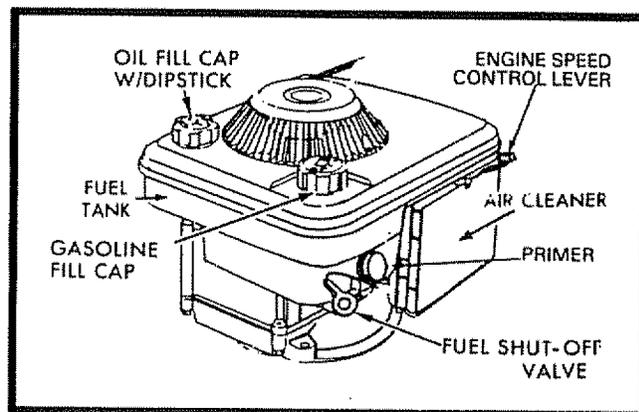

FIG. 12
- Remove Engine Oil Cap with dipstick (See Fig. 12) and fill to the FULL line on the dipstick.
- After the first two (2) hours of mowing, change the oil, and every 25 hours thereafter. You may need to change the oil more often under dusty, dirty conditions.
- Fill gasoline tank with fresh, clean unleaded gasoline. **DO NOT USE PREMIUM GASOLINE. BE CAREFUL NOT TO OVERFILL TANK (SEE FIG. 12).**
- Make sure Fuel Shut-Off Valve is open (See Fig. 12).
- To start a cold engine, push Primer five (5) times before trying to start. Use a firm push being sure to cover the hole in the Primer Bulb with your finger. This step is not usually necessary when starting an engine which has already run for a few minutes.
NOTE: Close Fuel Shut-Off Valve when equipment is not in operation (See Fig. 12).